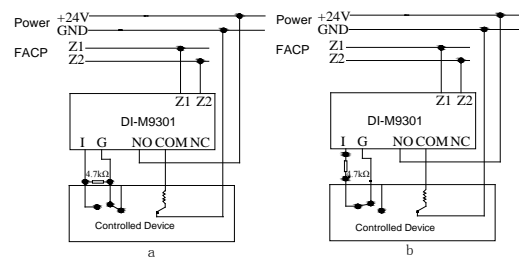

Fig. 7
- ✧ Connection of the module to devices controlled by 24VDC is shown in Fig.7 (line detection is provided by the controlled equipment).